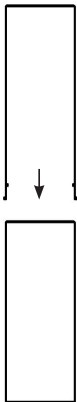

Figure 8
- Remove PTFE stator from stator sleeve (see Figure 8).
- Insert PTFE stator into stator sleeve (see Figure 8).